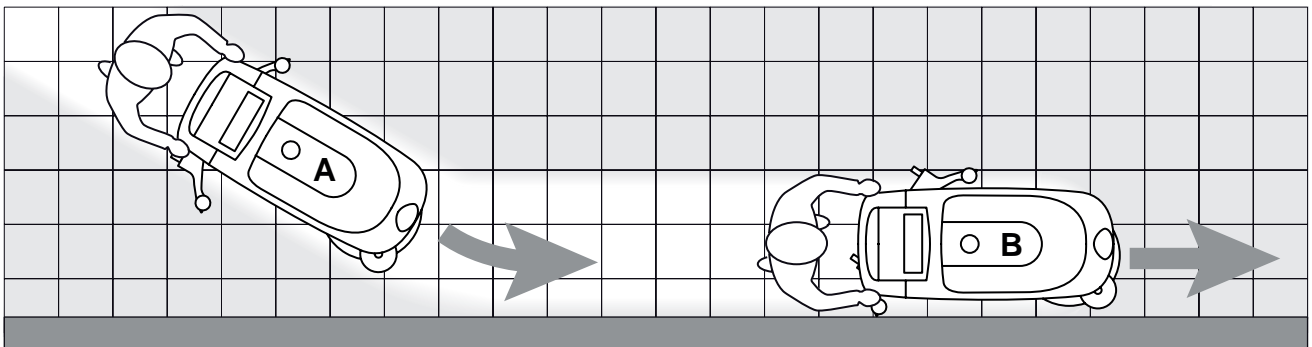

Figure 4
*For correct scrubbing/drying of floors at the sides of the walls, Nilfisk suggests to go near the walls with the right side of the machine as shown in figure 4.*